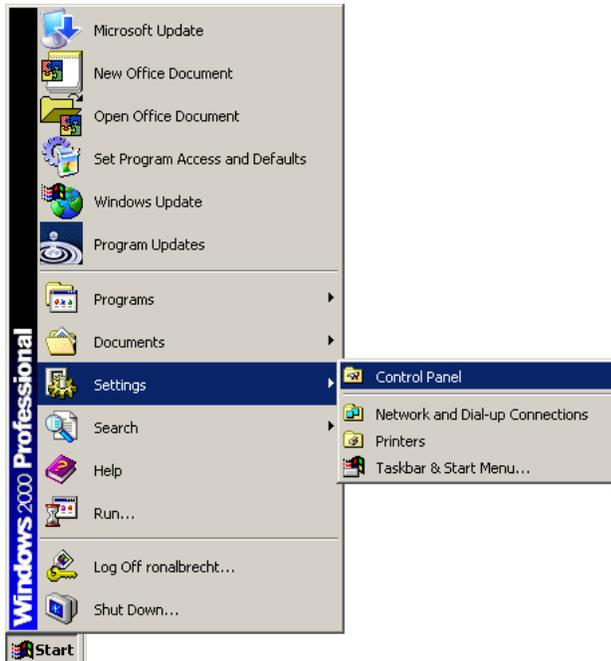

Figure 6-19: Windows Control Panel
Step 1: Open Windows Control Panel (Figure 6-19).